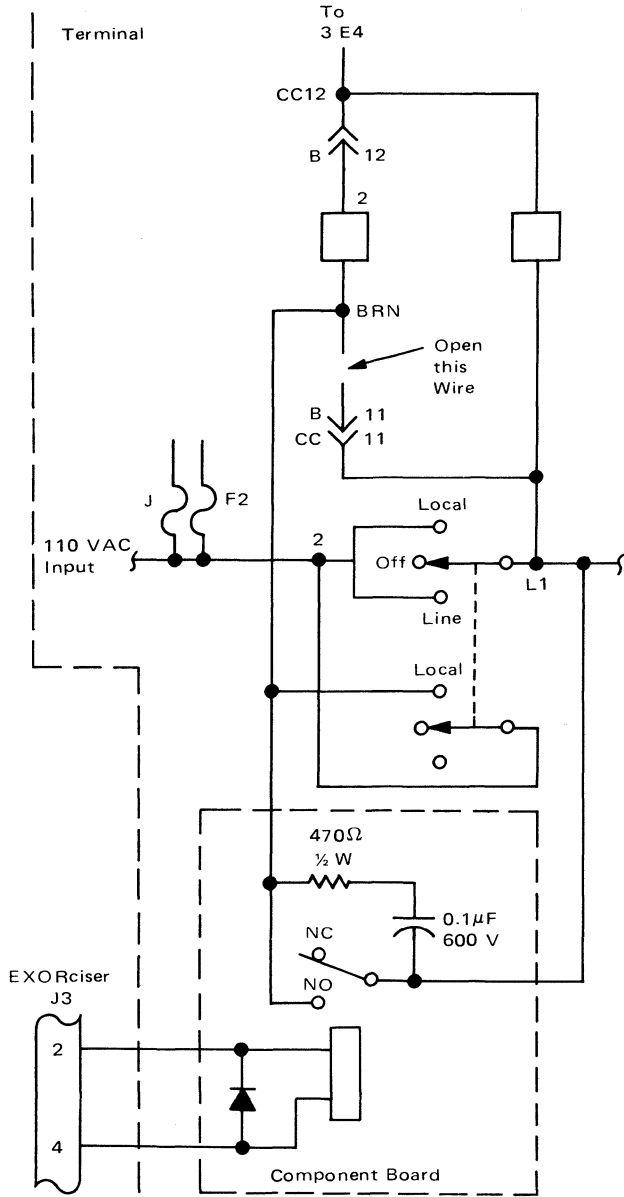

FIGURE B-4. TTY Terminal Schematic Incorporating Automatic Reader Control
- (c) Referring to the schematic diagram in Figure B-4, connect the relay, capacitor, and resistor into the terminals circuitry. The wire A may be spliced into the brown wire near the connector plug. The LINE and LOCAL lines must be connected to the MODE switch as shown.